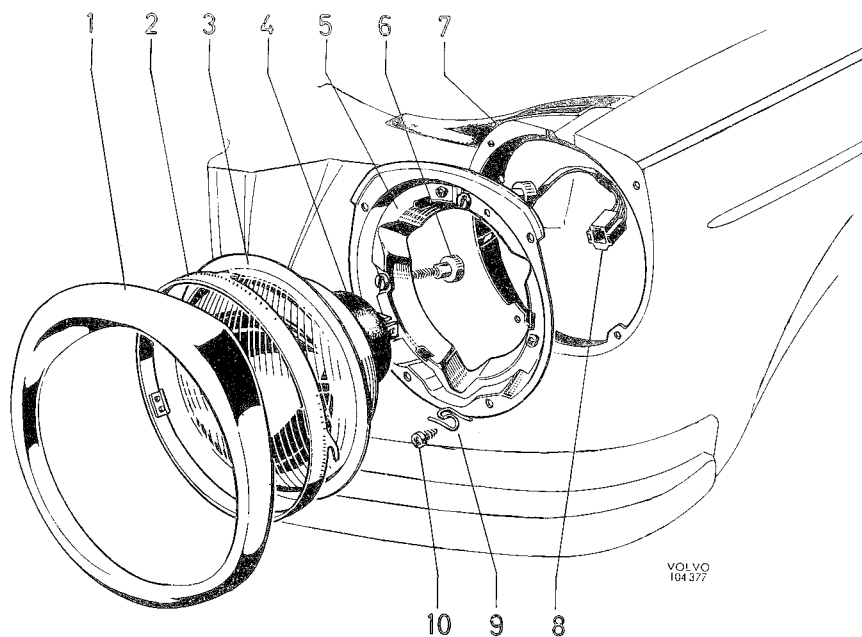

Fig. 3-87. Headlight
7. Adjust the light according to current legislation. Adjustment is made by means of the two adjusting screws, see Fig. 3-87. Use approved light adjusting equipment.
behind the headlight, see Fig. 3-87. The upper knob adjusts the headlight vertically and the knob at the side adjusts the headlight laterally.